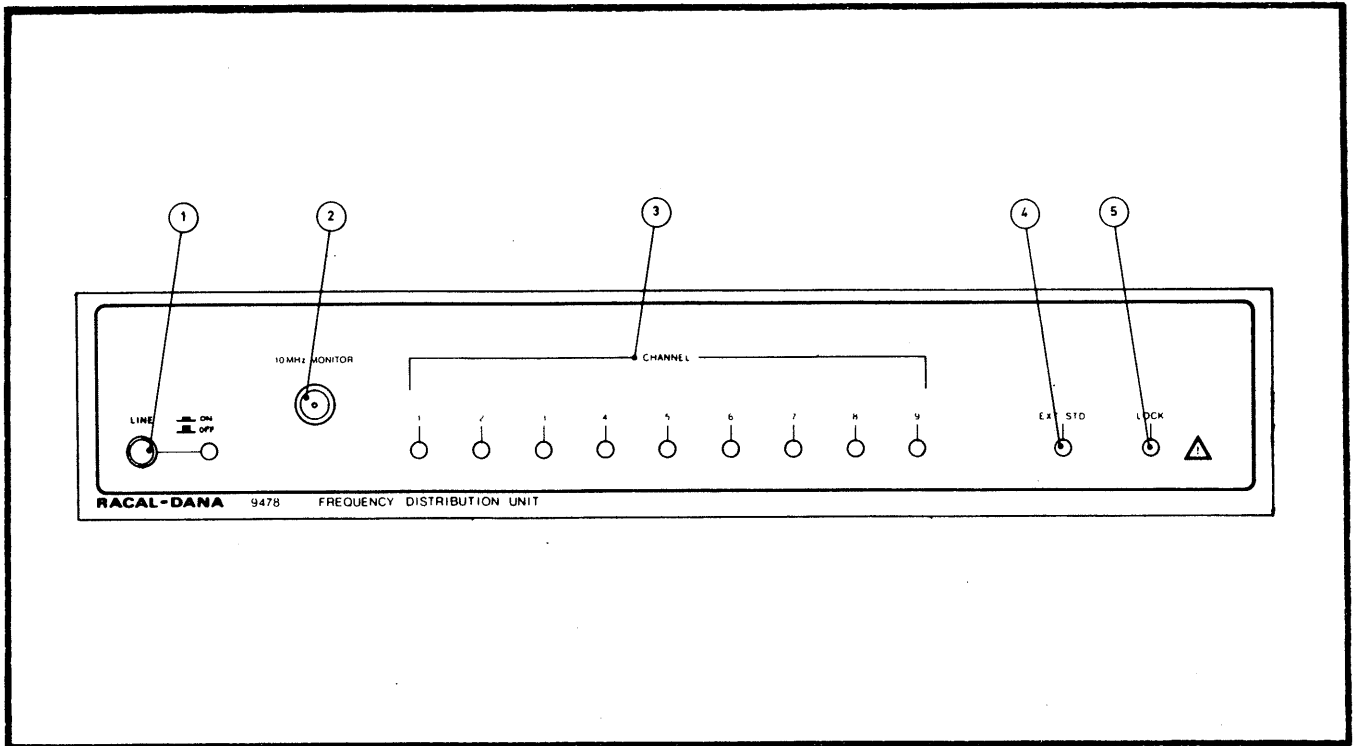

Fig. 4.1 Front Panel
- 4.2.1 Each group of controls, indicators or connectors described is numbered to correspond with the indicators on Fig. 4.1 (front panel) or Fig. 4.2 (rear panel).